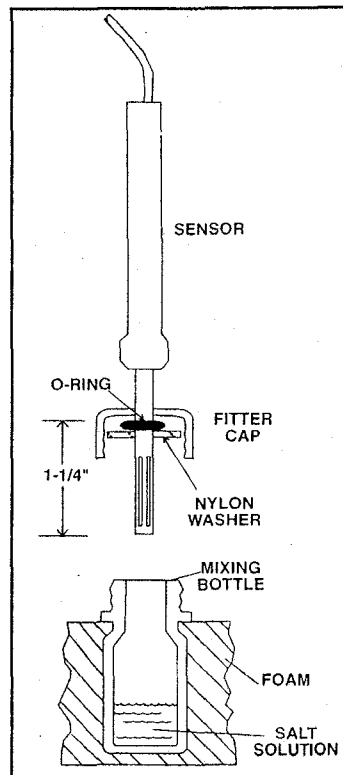

Figure 1. Parts of the Cal Kit
2. Insert the sensor through the fitter cap and then position the O-ring on the sensor tube approximately 1-1/4" from the end, as shown in Figure 1 (at the right).